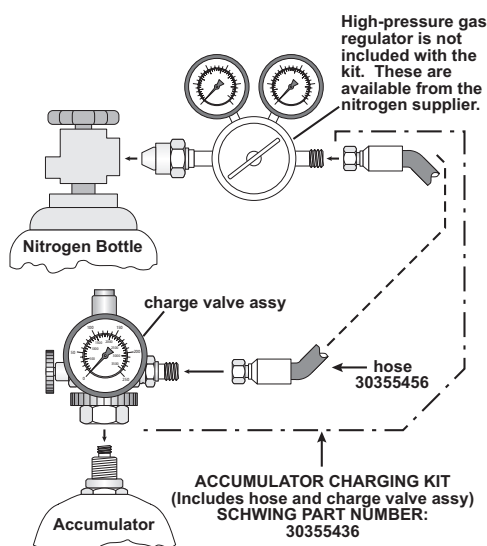

Figure 34
1. Before you begin, you will need a charging kit (Figure 34). Do not attempt to charge the accumulators without one. Order the charge valve kit assembly from the SCHWING Service Center using part number 30355436.